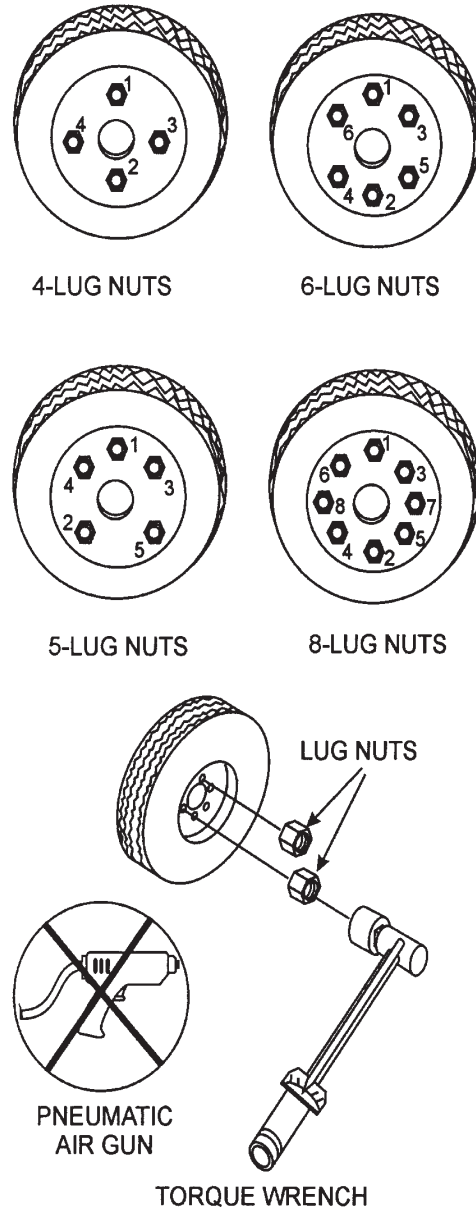

Figure 60. Wheel Lug Nuts Tightening Sequence
12. **Lug Nuts** — Used to secure the wheel to the wheel hub. Always use a torque wrench to tighten down the lug nuts. See Table 16 and Figure 60 for lug nut tightening and sequence.
2. Torque all lug nuts in sequence (see Figure 60). **DO NOT** torque the wheel lug nuts all the way down. Tighten each lug nut in 3 separate passes as defined by Table 16.